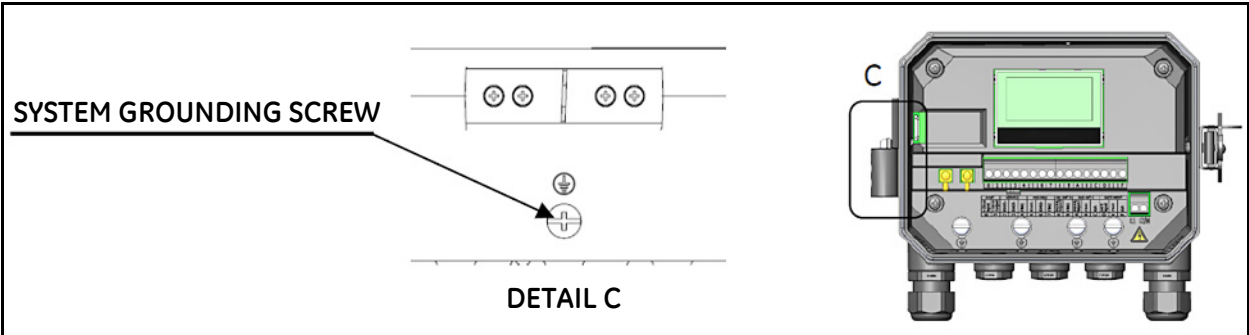

Figure 26: System Grounding Screw
**WARNING!** The AT600 must always be connected to a proper earth ground, using the *system grounding screw* shown in *Figure 26* below.